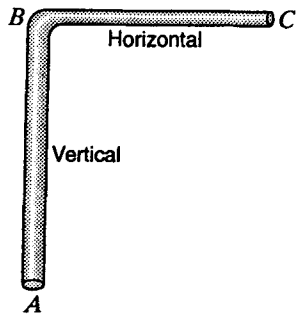

Figure P5.4
5.5 Refer to Fig. P5.4. Water at 10°C flows up AB (5 m long, 40 mm diameter), then along BC (3 m long, 30 mm diameter). The measured pressure at A is 275 kPa . (a) Find the pressure at C if the flow rate is 2.0 L/s . Neglect pipe friction and energy losses. (b) Repeat for the same flow rate in the opposite direction.